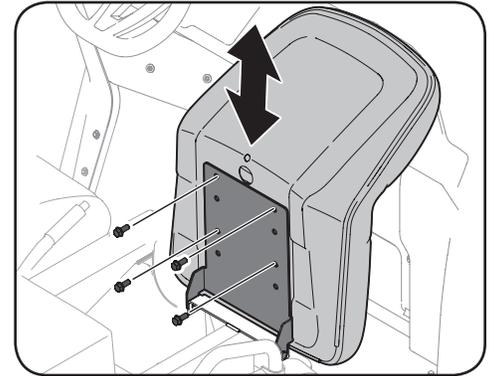

Figure 3-6
The seats can be adjusted to either the forward or rearward position by removing the (4) bolts securing them to the seat pan and reinstalling them into the seat in the other (4) holes of the seat pan. Tighten bolts to 170 in-lb. See Figure 3-6.